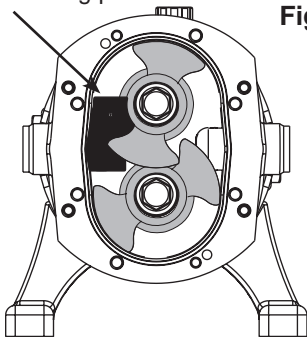
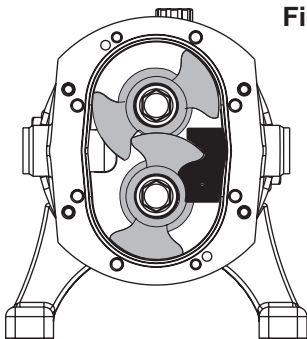

Fig. 9
Fig. 8
1. Remove can (26) as described in section 4.4.
2. Remove front cover (1) as described in section 4.1.
3. Position the rotors (35) and insert the rotor locking piece as shown in fig. 9.
4. Straighten the locking tab on the washer of the gear nut (55) at the gears (54) and undo the upper or right gear nut (56).
5. Re-position the rotor lock as shown in fig. 8.
6. Undo the bottom or left gear nut (56).
7. Remove rotor lock and rotors (35) as described in section 4.2.
8. Straighten the locking tab on the washer (55) at the gears (54) and remove the washers (55).
9. Pull the gears (54) off the shafts (38, 39) using an extractor. Note by means of centre-punch marks which gear came off which shaft.